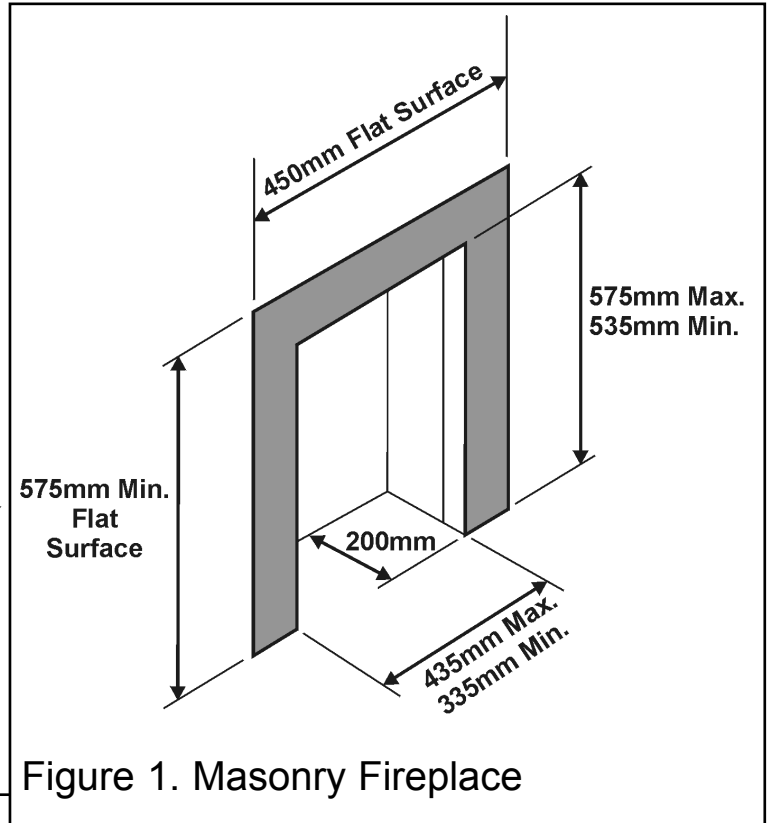

Figure 1. Masonry Fireplace
**3.9.1** A masonry chimney with a minimum diameter of 175mm (7") free from any obstruction, and with any damper or restrictor plate in the chimney removed or secured, and having a minimum effective flue height of 3m (10ft). Note the relevant flat surface area requirement – See figure 1. A masonry chimney having a correctly installed flue liner to BS715 and with a minimum flue diameter of 125mm is also acceptable. Chair brick removal may not be required providing at least 50mm clearance is available from the flue outlet to any fireplace component. The appliance is designed to cater for low lintel installations (min height 505mm) providing a minimum distance of 25mm is maintained between the lintel and the front face of the fireplace (i.e. 25mm rebated fire surround).